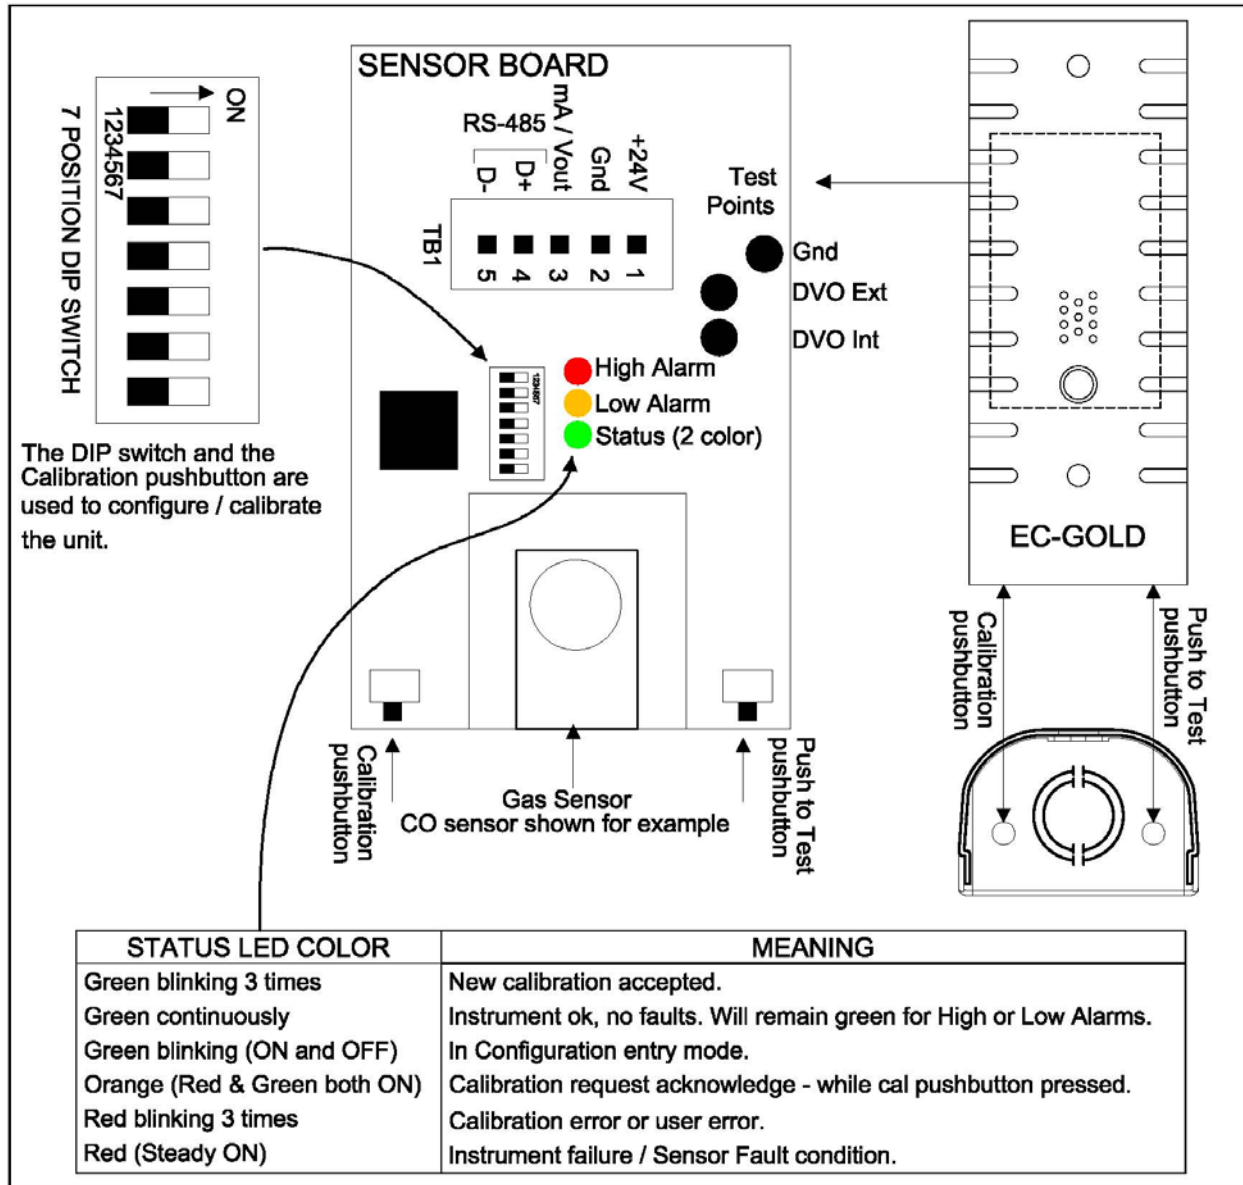

Figure 6 – USER INTERFACE OVERVIEW
| Figure 6 – USER INTERFACE OVERVIEW | 9 |
The Calibration pushbutton may be accessed using a screwdriver or other fine tool – See Figure 6 or 7 for the location of the access hole.
4. Press and hold the calibration pushbutton (via the access hole – see Fig. 6) until the Status LED glows orange acknowledging the calibration request. Release the pushbutton.
Press the Push to Test pushbutton to activate this feature. See Figure 6 for the pushbutton location.